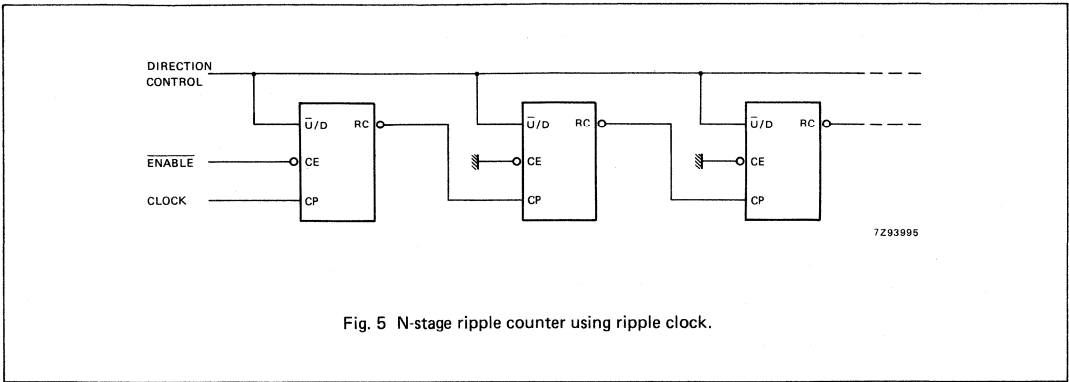

Fig. 5 N-stage ripple counter using ripple clock.
Overflow/underflow indications are provided by two types of outputs, the terminal count (TC) and ripple clock (\overline{RC}). The TC output is normally LOW and goes HIGH when a circuit reaches zero in the count-down mode or reaches "9" in the count-up mode. The TC output will remain HIGH until a state change occurs, either by counting or presetting, or until $\overline{U/D}$ is changed. Do not use the TC output as a clock signal because it is subject to decoding spikes. The TC signal is used internally to enable the \overline{RC} output. When TC is HIGH and $\overline{C/E}$ is LOW, the \overline{RC} output follows the clock pulse (CP). This feature simplifies the design of multistage counters as shown in Figs 5 and 6.
In Fig. 5, each \overline{RC} output is used as the clock input to the next higher stage. It is only necessary to inhibit the first stage to prevent counting in all stages, since a HIGH on $\overline{C/E}$ inhibits the \overline{RC} output pulse as indicated in the function table. The timing skew between state changes in the first and last stages is represented by the cumulative delay of the clock as it ripples through the preceding stages. This can be a disadvantage of this configuration in some applications.
In Fig. 7, the configuration shown avoids ripple delays and their associated restrictions. Combining the TC signals from all the preceding stages forms the $\overline{C/E}$ input for a given stage. An enable must be included in each carry gate in order to inhibit counting. The TC output of a given stage is not affected by its own $\overline{C/E}$ signal therefore the simple inhibit scheme of Figs 5 and 6 does not apply.